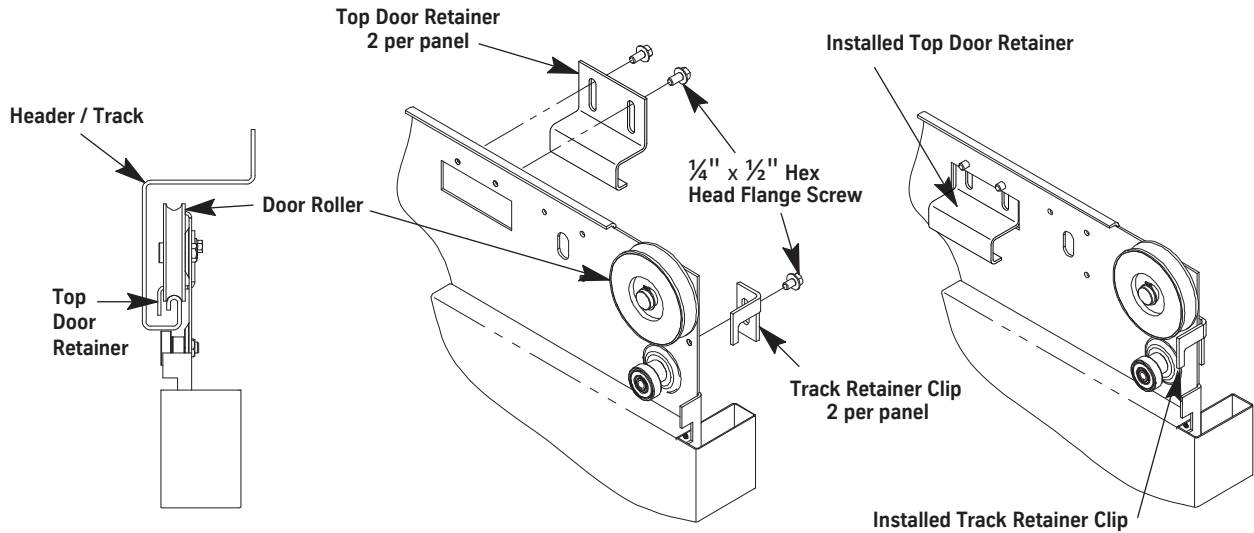

Figure 67 - Top Door Retainer
1. On each side of the door panel, use the provided hardware to install a top door retainer on the hanger. See Figure 67 on page 7-76.